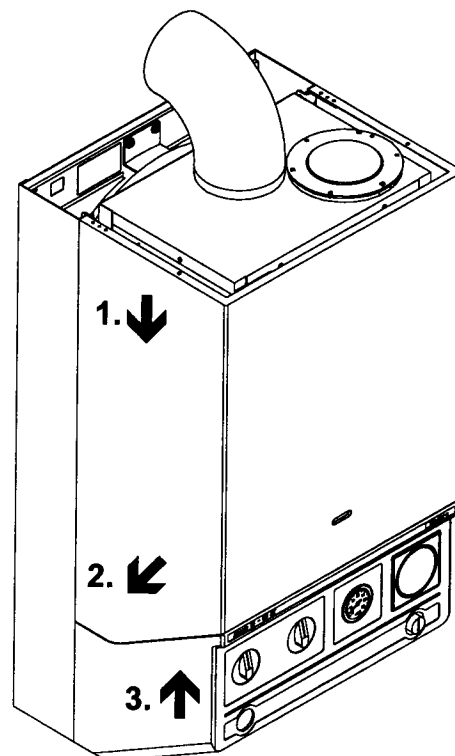

Fig. 21
6.13 REFIXING THE FRONT CASING. (Fig. 21)